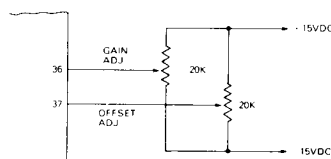

Figure 1. External Adjustment
- Offset and gain adjustments are made by connecting two 20K trim potentiometers as shown in Figure 1.